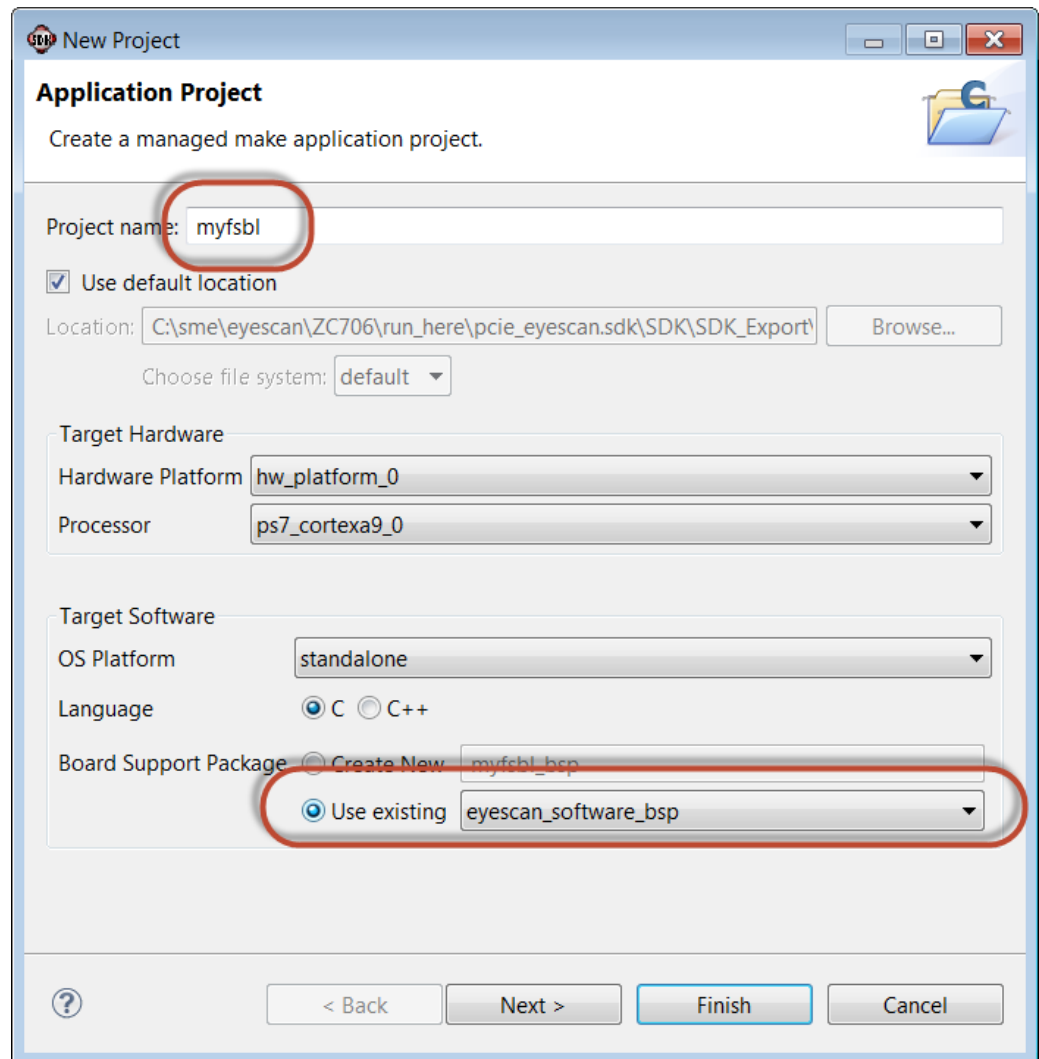

Figure 23: Labeling FSBL Project
16. The name of the FSBL is not important, but this application note names it `myfsbl`. It is important to use the existing BSP linked to the software application as shown in Figure 23.